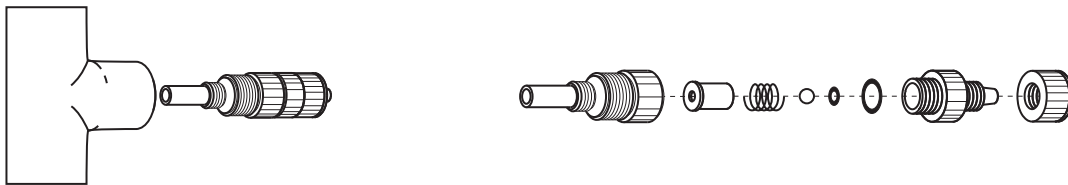

FIG. 4.8
- Ô Periodically clean the injection/check valve assembly, especially when injecting fluids that calcify such as sodium hypochlorite. These lime deposits and other build ups can clog the fitting, increase the back pressure and interfere with the check valve operation. See section 4.3.4. Fig. 4.8.